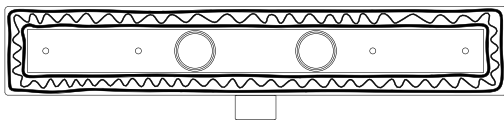

Fig.6
- 2.2- Apply two continuous lines of adhesive/sealant to the drain flange. Complete applying a zigzag of adhesive/sealant between them (see. Fig. 6).